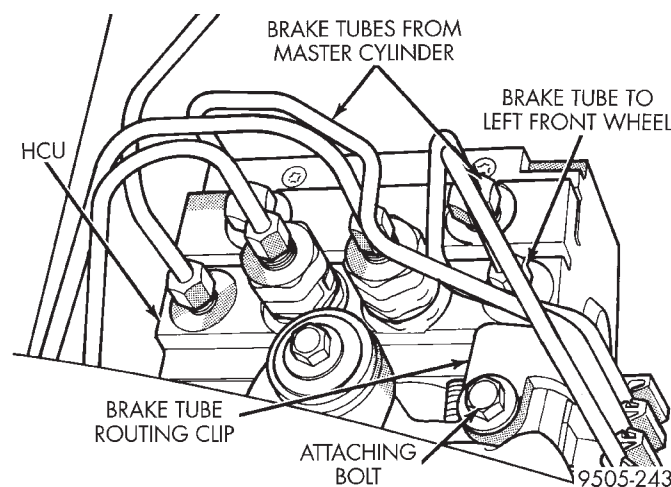

**Fig. 18 Brake Tubes At HCU**
(10) Remove the brake tube routing clip (Fig. 18) from the HCU mounting bracket. Then remove the 2 brake tubes coming from master cylinder and the brake tube going to the left front wheel (Fig. 18) from the HCU ports.
(6) Install the 2 brake tubes coming from master cylinder and the brake tube to the left front wheel (Fig. 18) in the HCU ports. Tighten the 3 brake tube nuts to a torque of 20 N·m (180 in. lbs.). Install the brake tube routing clip (Fig. 18) on the HCU mounting bracket and securely tighten attaching bolt.